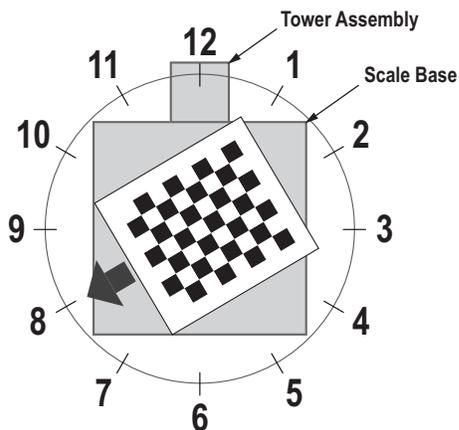

Figure 5-14. Rotate to 8 o'clock
- Align calibration object so the cross hairs are centered. Rotate the calibration object to 8 o'clock with the tower assembly being at 12 o'clock (Figure 5-14).